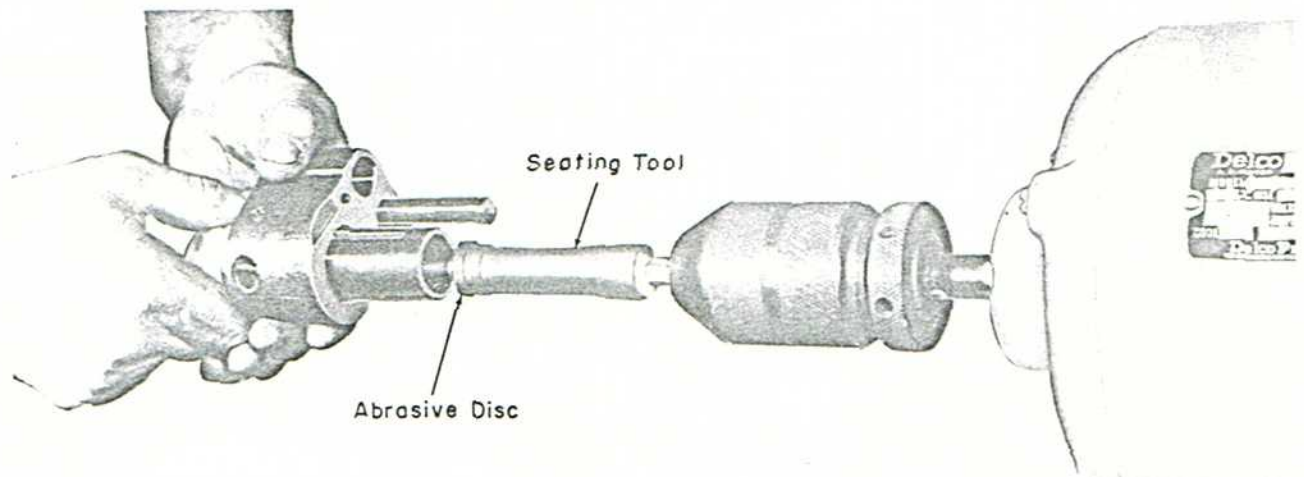

Fig. 9 - Cleaning Flat-Gear Side Of Body
- b. Apply abrasive disc # 8201447 (13/16" diameter - 60 grit emory disc) to seating tool #8201446 and apply seating tool in motor driven chuck. Remove any carbon from the inside diameter flat on follower side of body, Fig. 9.